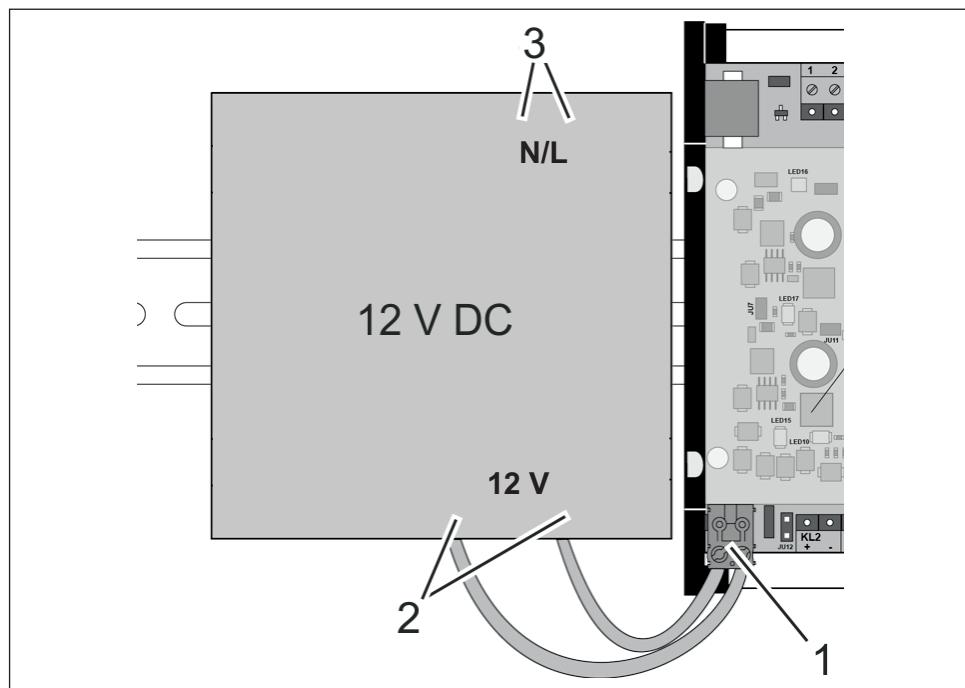

Fig. 11: Connection between power supply unit (illustrive) and controller
4. Connect controller terminal 1 (Fig. 11/1) to the 12 V voltage output port for the power supply unit (Fig. 11/2).
5. Connect the supply voltage input for the power supply unit (Fig. 11/3) to the on-site power supply.